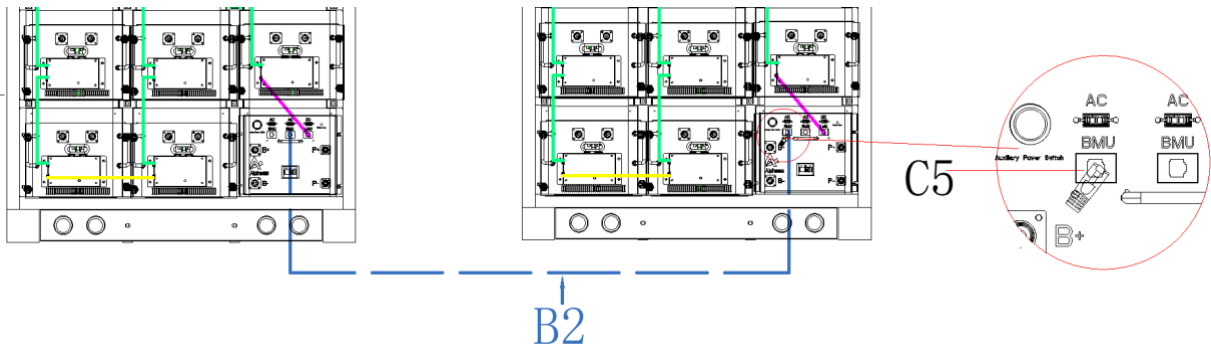

Figure 3-18 High voltage communication line connections between clusters
3. If there are multiple clusters of batteries, please use communication cable B2 from the high voltage box parts list to connect the high voltage boxes (BMU ports) of each cluster to each other. Please refer to Figure 3-18.
4. Please connect the last BMU port of the high voltage box without connecting the communication line to the terminal resistor C5 in the parts list. Please refer to Figure 3-18.